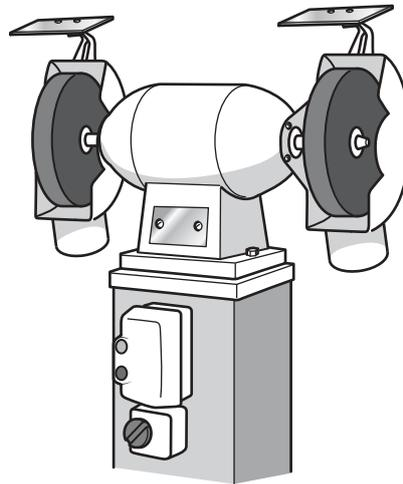

Fig. 13.5
- (c) Fig. 13.5 shows a buffing/polishing machine. The edges of the acrylic could be polished to a high quality before the acrylic is bent to the shape of the palette.